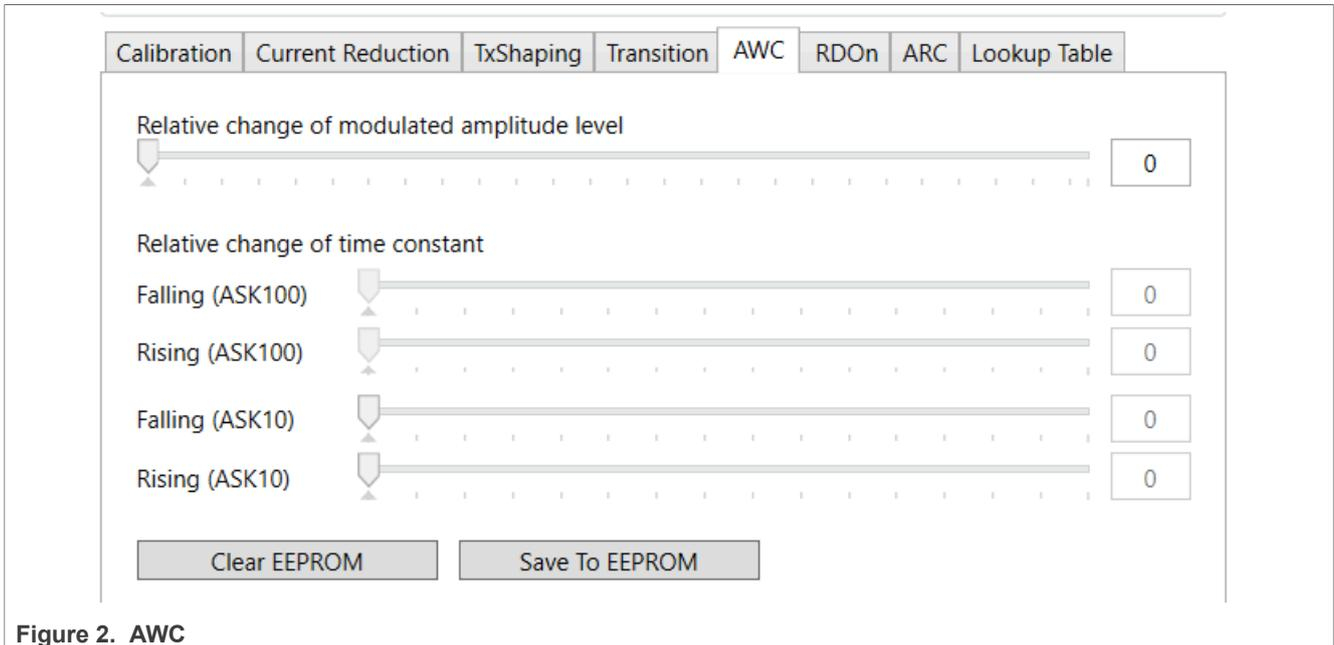

Figure 2. AWC
The best way to adjust these settings offers the NFC Cockpit, as shown in Figure 2.
**Note:** This LUT offers 43 32bit entries: one per VDDPA. So the setting, as shown in Figure 2 is only relevant for one VDDPA. Disable the DPC and select the VDDPA manually to fully control the adjustment of these entries.